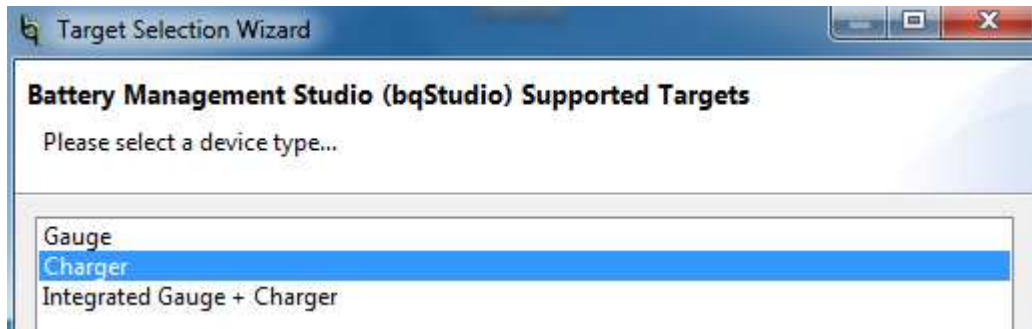

Figure 3. Selection Window of the bqStudio Evaluation Software
8. Turn on the computer. Launch *Battery Management Studio* (bqStudio). Select *Charge* and bq25898 (or bq25898D, bq25898C, accordingly) evaluation software. The main window of the software is shown in Figure 3.